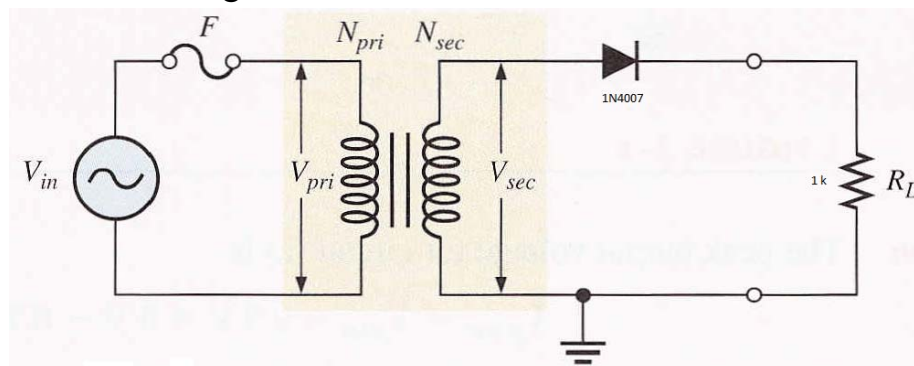

Figure 8.1
1. The circuit of half wave rectifier is made as shown in figure 8.1 in bread board.